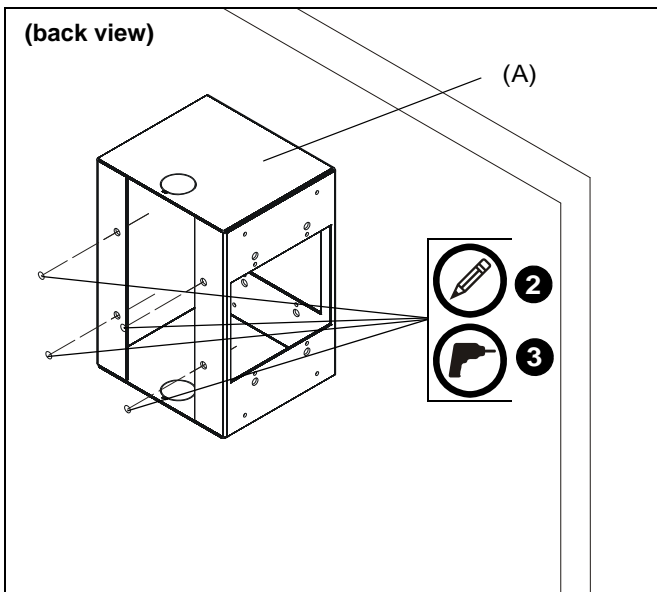

Figure 1
2. Using electrical box (A) as a template, mark location of four holes in wall at desired mounting location. (See Figure 1)
3. Drill four 1/4" holes at locations marked in previous step. (See Figure 1)
3. Drill four 1/8" holes at locations marked in previous step. (See Figure 1)